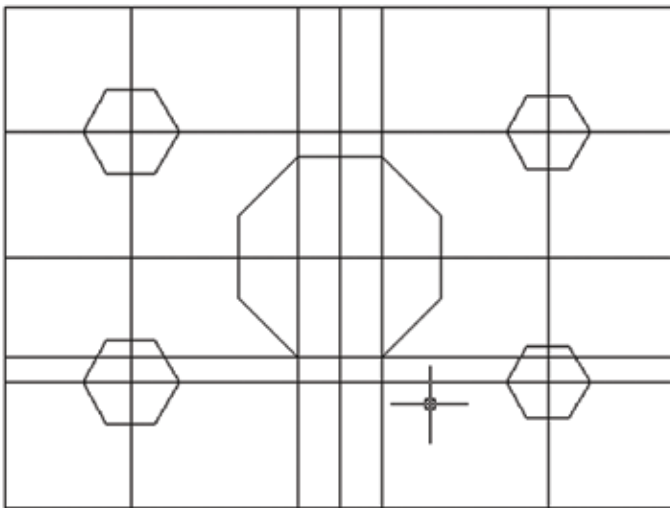

Figure 10.3
- As soon as the second edge point is picked, the polygon appears on the screen. Your drawing should now look like Figure 10.3.